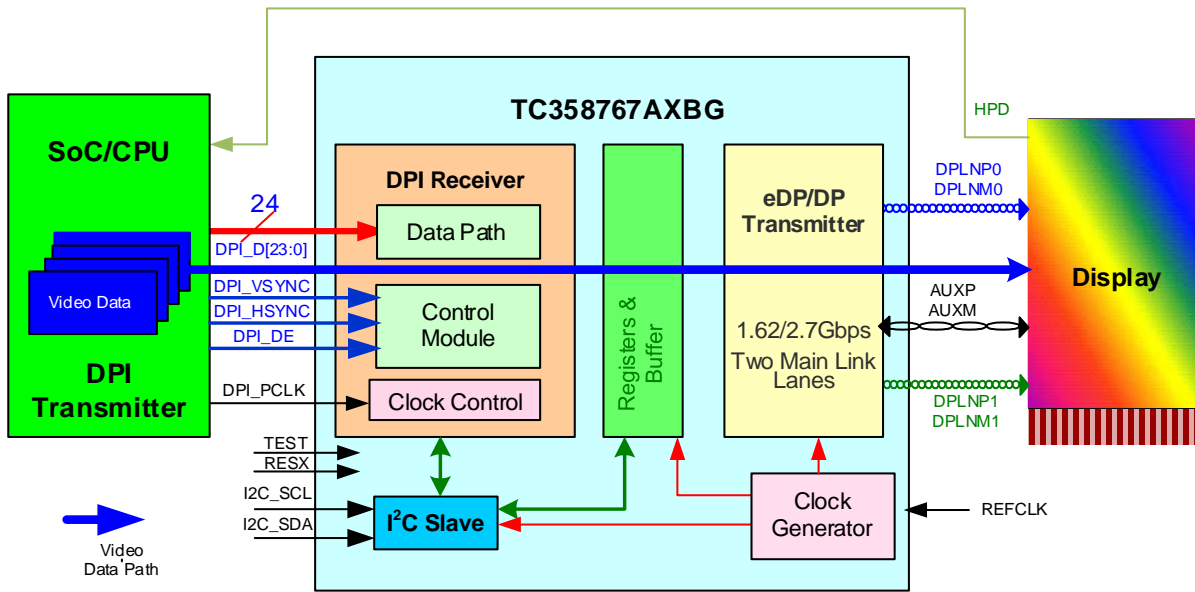

Figure 1.2 System Overview with TC358767AXBG in MODE_P21 Configuration
| Figure 1.2 System Overview with TC358767AXBG in MODE_P21 Configuration | 9 |
- **Mode_P21:** A system configuration where TC358767AXBG may typically be used is shown in Figure 1.2. This is similar to the Mode_S21 except that the video stream source is from DPI Host. In this configuration, the TC358767AXBG can support displays with resolution up to WUXGA (1920×1200) at 24bit, 60 fps.